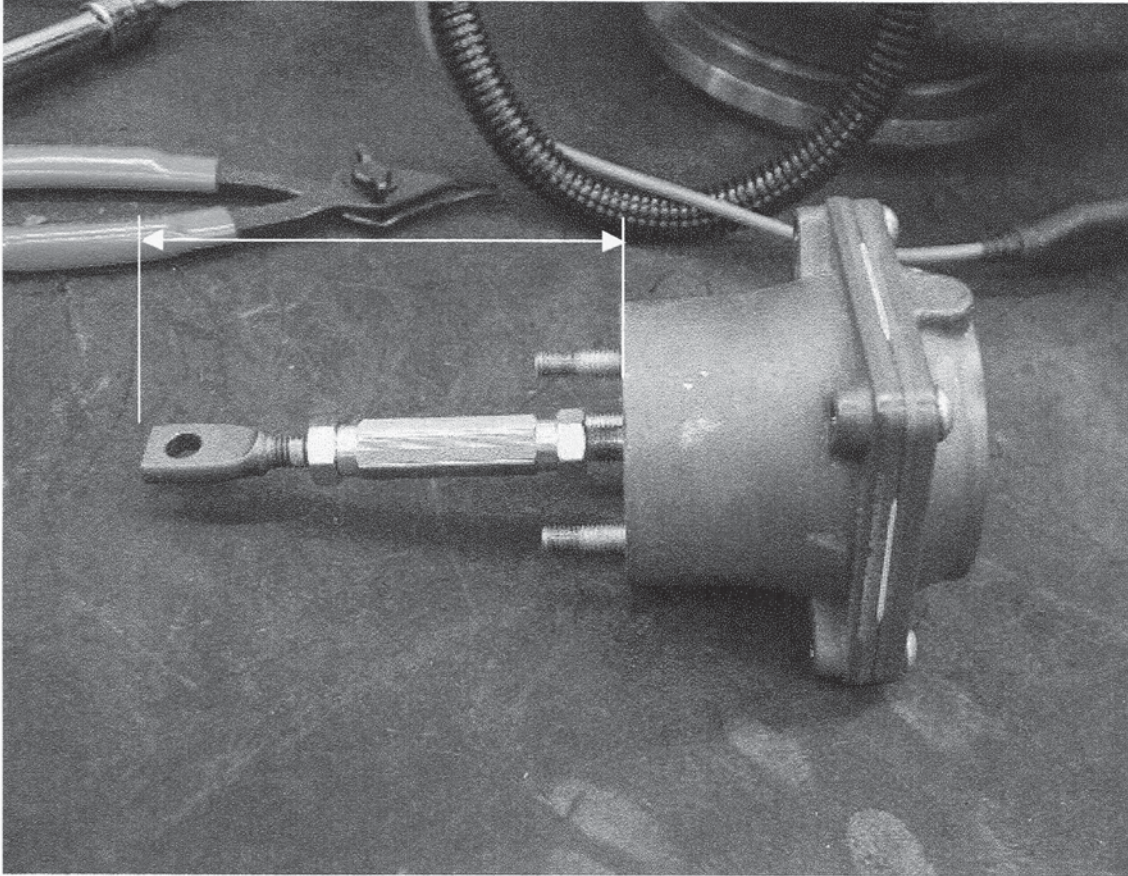

Figure 2
6. Using a pocket scale, measure and record the approximate distance from the rod end to the base of the actuator can (See Figure 2).